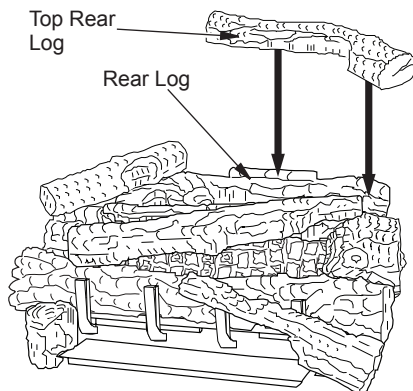

Figure 32 - Installing Top Rear Log
11. Place the top rear log (18" D-071, 24" & 30" D-045) onto the rear log as shown. The rear log has a projection that will fit into the recess area on the bottom of the top rear log (see Figure 32).